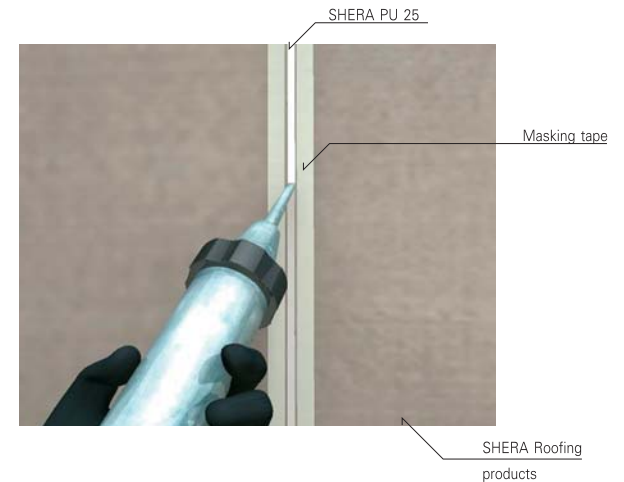

Figure 8 : Polyurethane Sealant Application
- Before putting sealant into the gap between the sheets, cover the edge of board or plank with easily removable masking tape. Fill the gap with sealant in an upward motion until it was completed full. Immediately remove the masking tape after complete sealant application. Refer to figure 8 for application method.